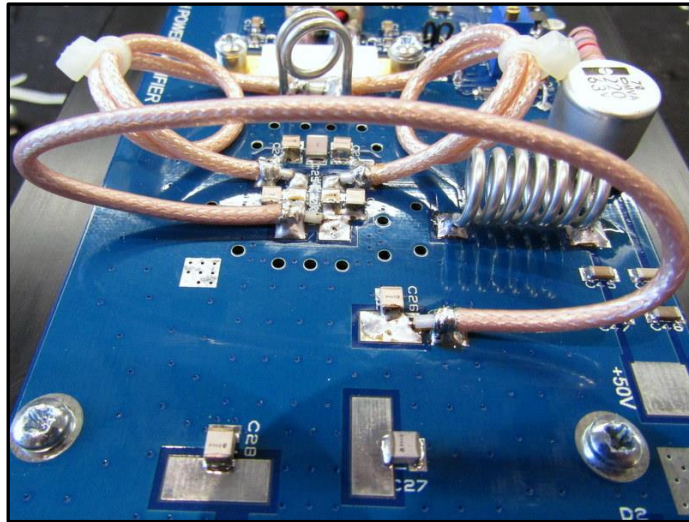
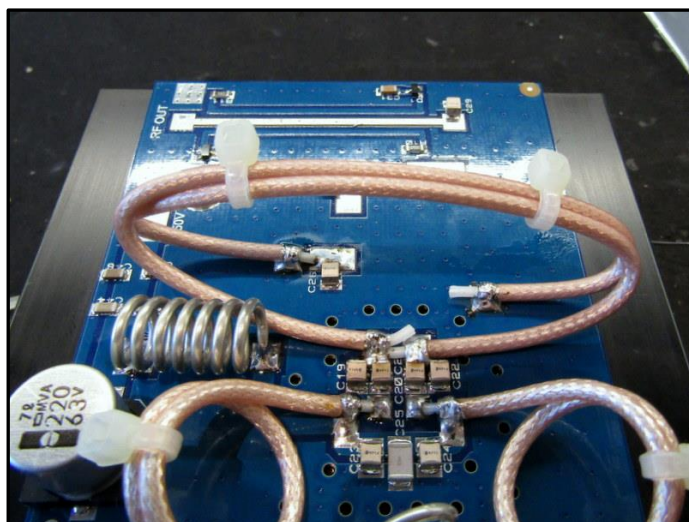

Figure 11: Z4 Position.
Figure 12: Z4 and Z5 Position
14. Cut a 200mm piece of 16SWG tinned copper wire and form a 7 turn coil around a 6.5mm drill bit. The length of this coil should be 18mm from centre-to-centre of the wire as shown in figure 11. Bend and trim the excess wire to form 2mm leads. Solder the coil in position as in figure 12. This is L7, the DC drain feed coil for the RF power transistor.